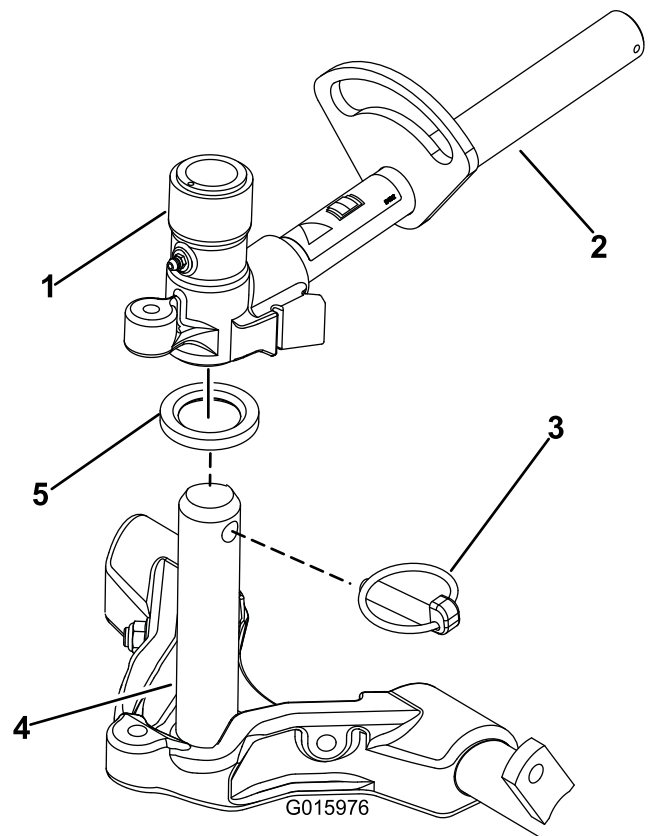

Figure 16
- Coat the carrier-frame shaft with clean grease (Figure 16).
- For the front cutting units, slide a cutting unit under the lift arm while inserting the shaft of the carrier frame up into the lift-arm pivot yoke (Figure 16). Make sure that the thrust washer is in position on the carrier frame shaft.
- Secure the carrier-frame shaft to the lift-arm yoke with the klik pin (Figure 16).
- B. Insert the lift-arm yoke onto the carrier frame shaft (Figure 16).